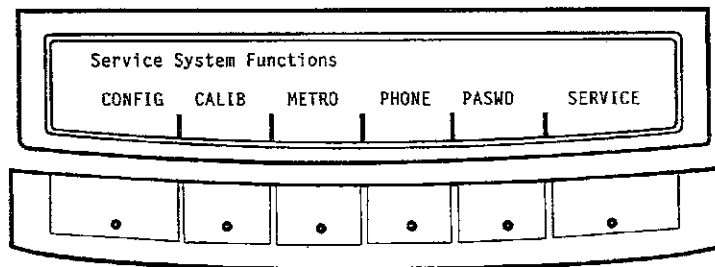

Figure 5
4. Key in the password and press the **ENTER** hard key. . . The soft keys shown in Figure 5 appear.